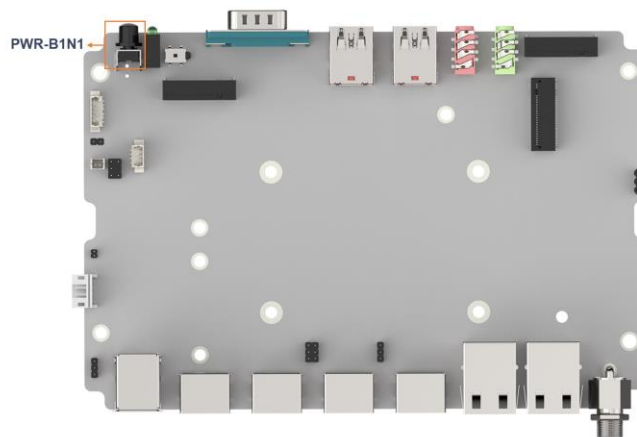

Figure 4-4: Power Button Connector Location
- CN Location:** See **Figure 4-4**